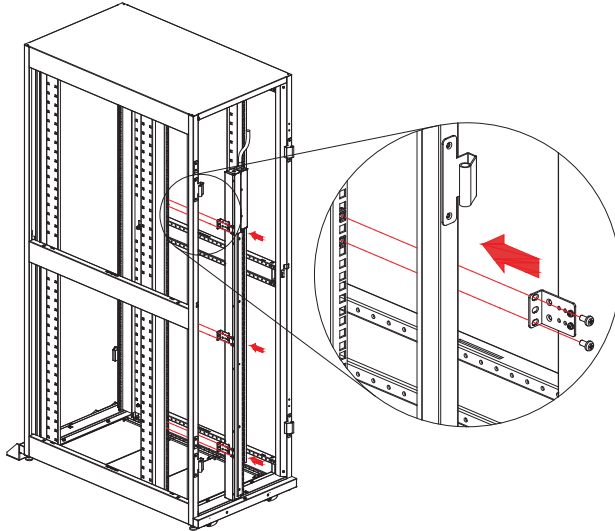

Figure 4
5. Install the PDU on a mounting rail in your rack using the M6*12mm screws and M6 cage nuts. See **Figure 4**.